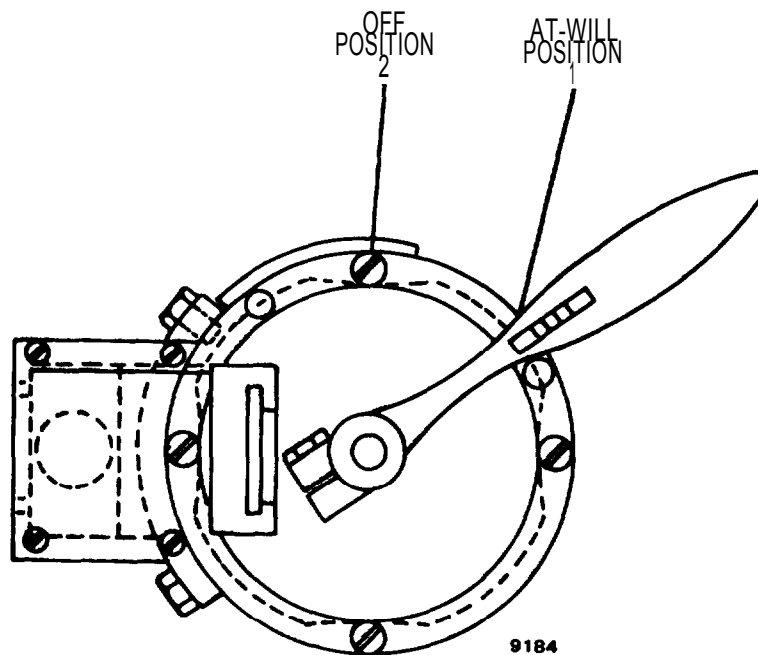

FIGURE 2-33. Electrical Horn, Test.
- a. Set horn rotary switch to at-will position (3, FIGURE 2-33).
- k. Set horn rotary switch to OFF (2, FIGURE 2-33).